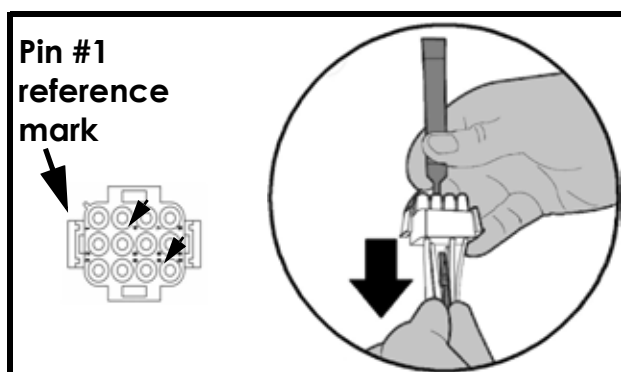

Fig. 24
- 3) With an extractor tool (#005.00374), remove the two blue limit switch wires from the main connector (position numbers 4 and 8) (see Fig. 24).